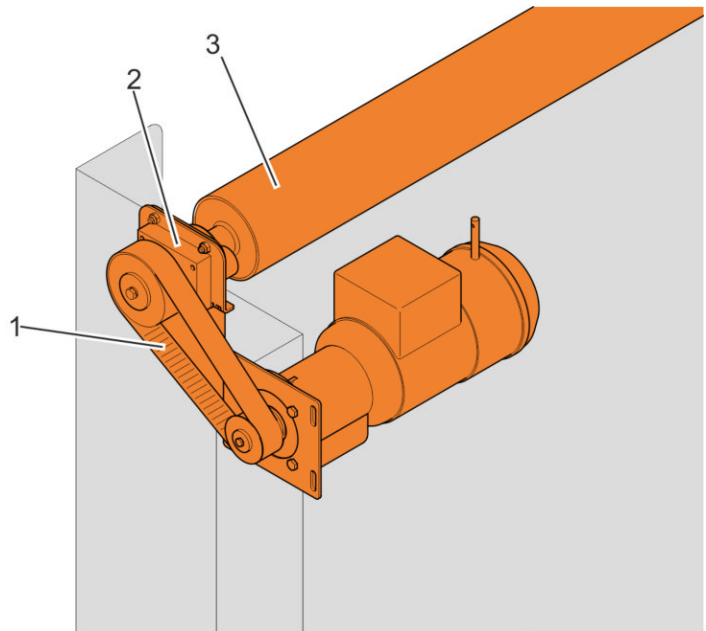

Fig. 6: Winding shaft with belt drive and drive motor
- Winding shaft (tube \varnothing 114 mm) (282 EFA-SRT-L Soft Touch) (Fig. 6/3)
- Winding shaft (tube \varnothing 159 mm) (289 EFA-SRT-S Soft Touch) (Fig. 6/3)
- High-grade industrial bearings (Fig. 6/2)
- Belt drive and drive motor (Fig. 6/1)